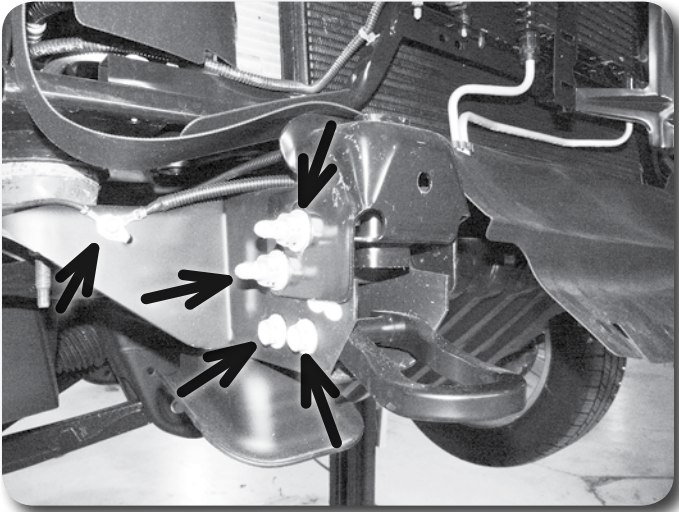

Figure 5
7. Make a small mark on each tow hook to indicate which side is up. Remove the tow hooks from the frame by removing the two (per hook) mounting bolts **Figure 5**. Save the mounting hardware and hooks.
8. Remove the factory front bumper brackets from the frame horns **Figure 5**. Save all hardware.
10. Disconnect the ground wire(s) from the passenger's side front body mount bracket **Figure 5**. Save bolt.